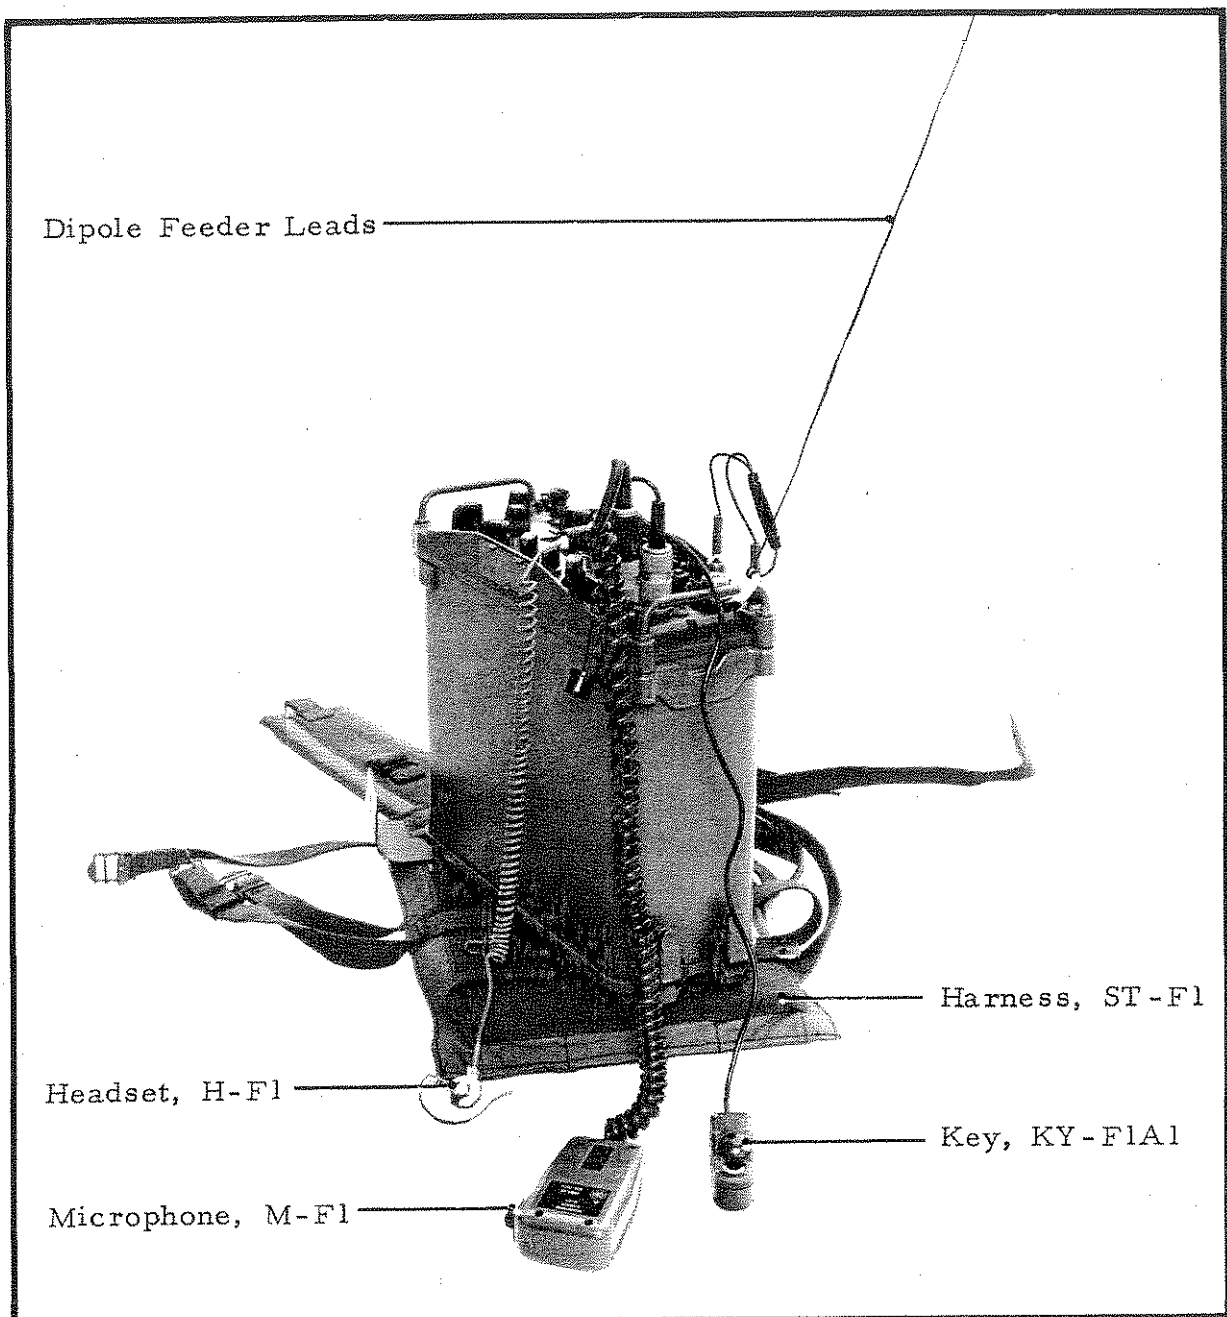

FIG 34
USED ON GROUND STATION SHOWN IN FIG 34
- b. Antenna AS-F2 (dipole) for long range sky wave communications. When using the dipole antenna, ensure that the case of the Receiver-Transmitter is isolated from earth, and do NOT use an earth wire or the Counterpoise Antenna. A Radio Set PRC-F1 (or F3) set up as a temporary ground station using Antennae AS-F2 is shown in Fig 34. Note the use of the Harness, ST-F1 as a means of isolating the case of the set from earth.